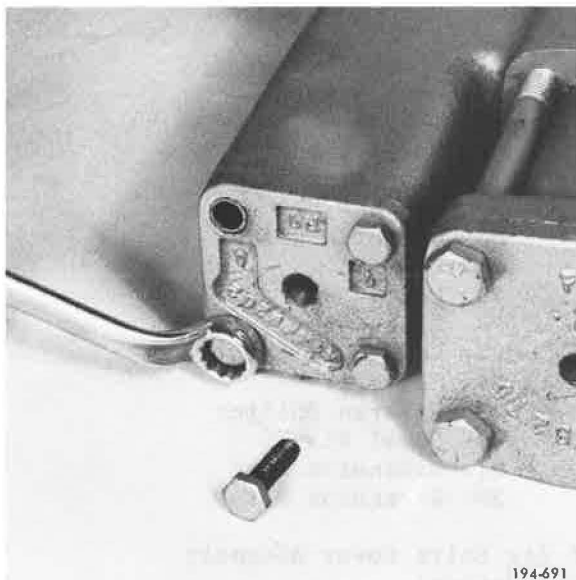

Figure 149. Removing Capscrews
3. Remove reverse shift cover cap-screws. See Figure 149.